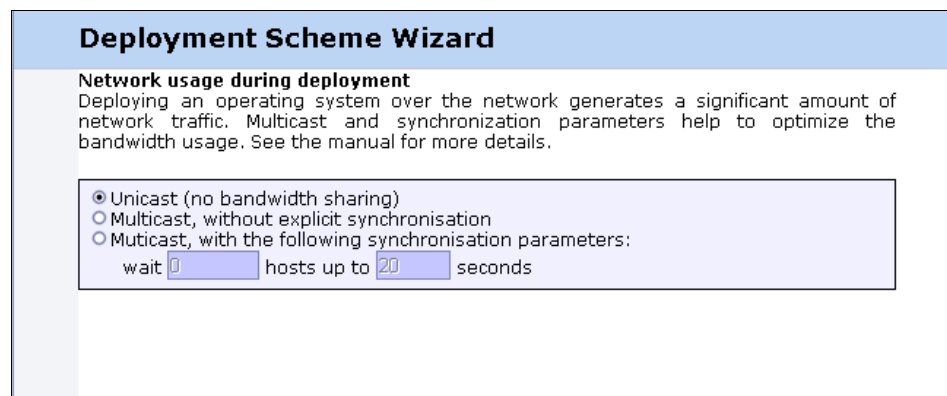

Figure 2-42 Selecting network usage
- Next, we configure the network usage during deployment by selecting between unicast, multicast with synchronization, and multicast without synchronization. In this scenario we take the default of unicast as shown in Figure 2-42 on page 46 which will allow the system to not share bandwidth during the installation. Please refer to section 6.3, “Network Bandwidth Considerations” on page 132 for details on the different network options.